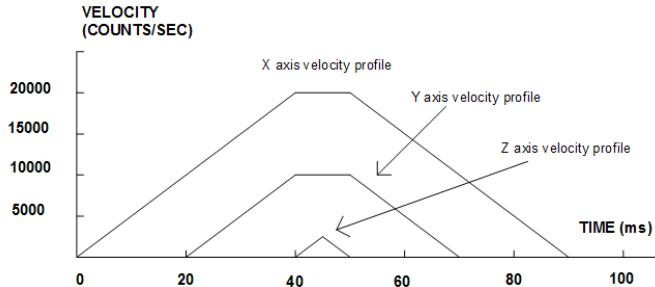

Figure 6.1: Velocity Profiles of XYZ
This example will specify a relative position movement on X, Y and Z axes. The movement on each axis will be separated by 20 msec Figure 6.1 shows the velocity profiles for the X,Y and Z axis.
**Notes on Figure 6.1:** The X and Y axis have a ‘trapezoidal’ velocity profile, while the Z axis has a ‘triangular’ velocity profile. The X and Y axes accelerate to the specified speed, move at this constant speed, and then decelerate such that the final position agrees with the command position, PR. The Z axis accelerates, but before the specified speed is achieved, must begin deceleration such that the axis will stop at the commanded position. All 3 axes have the same acceleration and deceleration rate, hence, the slope of the rising and falling edges of all 3 velocity profiles are the same.